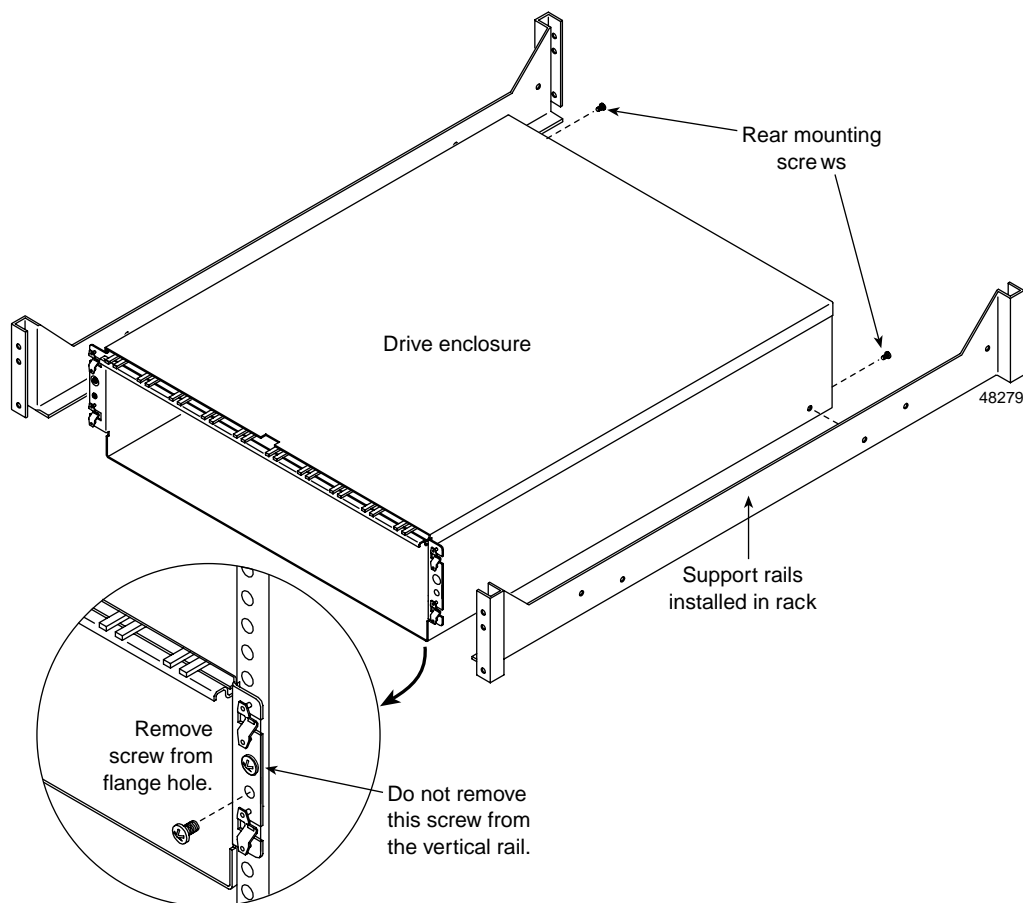

Figure 6-7 Removing the Empty Drive Enclosure
3. Remove the front and rear mounting screws (see Figure 6-7). There are two mounting screws at the rear, one for each support rail, and two mounting screws in the front, one in each flange.
2. From the front of the rack, slide the drive enclosure into the rack along the support rails (see Figure 6-7).
3. Fasten the rear and front mounting screws (see Figure 6-7).